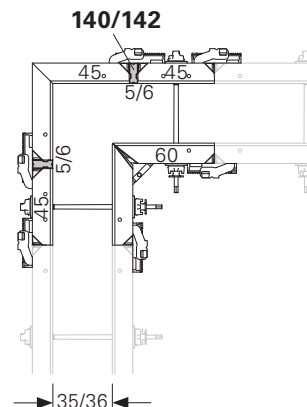

Fig. D2.07
- Wall thickness 35 / 36: Fig. D2.07 + D1.06a/c + D2.06b/d